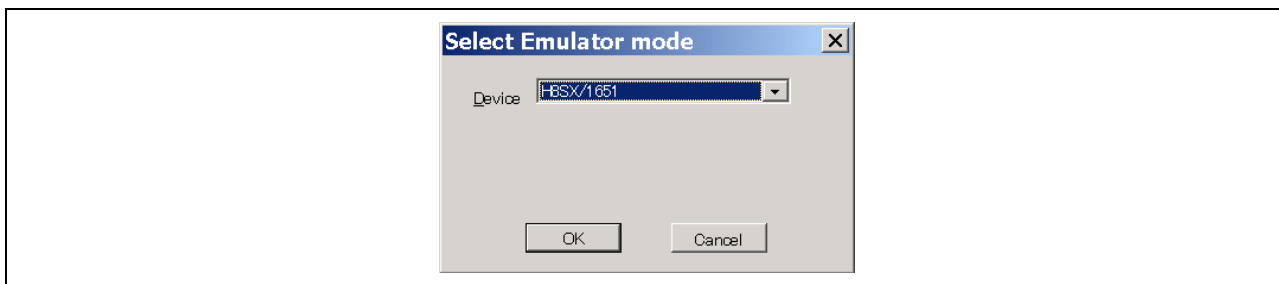

Figure 3 [Select Emulator mode] Dialog Box
- (6) The [Select Emulator mode] dialog is shown in Figure 3 displayed. Select “H8SX/1651” CPU used from the drop-down list box, and press the [OK] button.